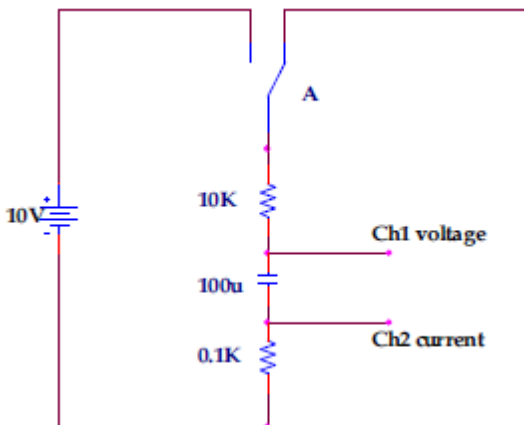

Figure 1
1) Connect the circuit as shown in Figure 1.